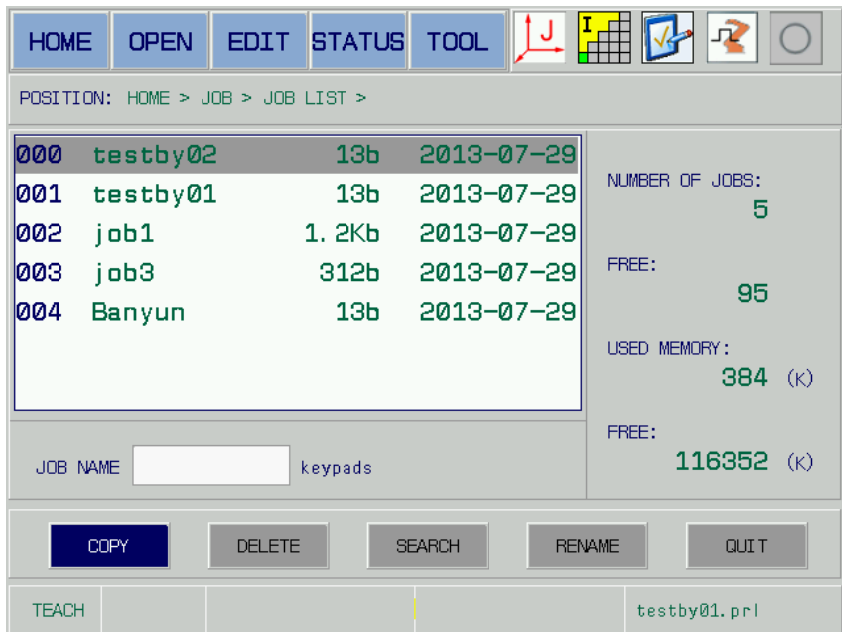

Fig. 5-9
4. Shift the cursor to the operation button area by [TAB], then move the cursor to the [COPY] button with the left/right direction button, and then complete the program copy by [SELECT], refer to the Fig. 5-9.